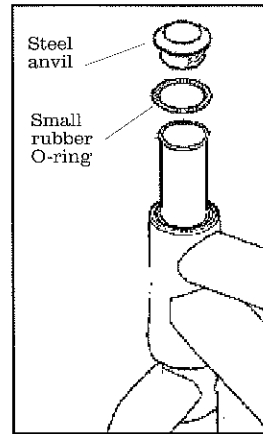

Fig. 20
1. Install the **small rubber O-ring** onto the **steel anvil** (Fig. 20).